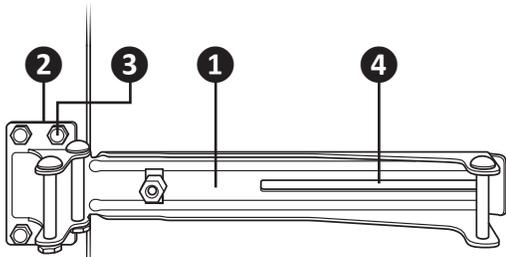

figure 1
1. Place **Tie Bar 1** on the door or gate with **Bracket Hinge 2** on door casing or post (works on left or right hand doors by reversing **Bracket Hinge**). Align the edge of the **Bracket Hinge** with the edge of the door casing or gate post. Mark and then drill a 3/16" hole in anyone of the four **Bracket Hinge** holes, and insert and tighten one **1-1/2" Screw 3**. If the wood post is round, the **Bracket Hinge** must be mortised into the wood post for firm mounting (figure 1).